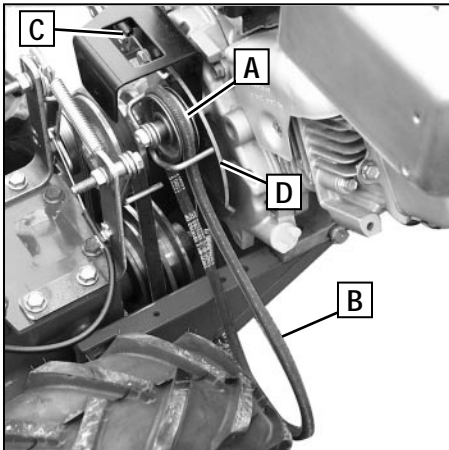

Figure 5-8
NOTE: The photographs in this Section show a reverse drive assembly (pulley (A), Figure 5-8), belt (B), cable (C) and linkage(D)). These components are not used on Model 12226.
NOTE: The photographs in this Section show a reverse drive assembly (pulley, A, Figure 5-8), belt (B), cable (C) and linkage(D). These components are not used on Model 12226.